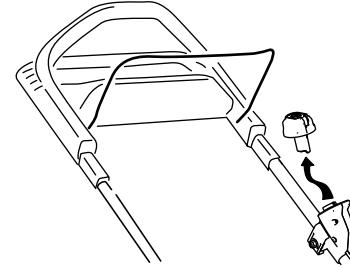

Figure 20
- Remove the electric-start button (Figure 20).